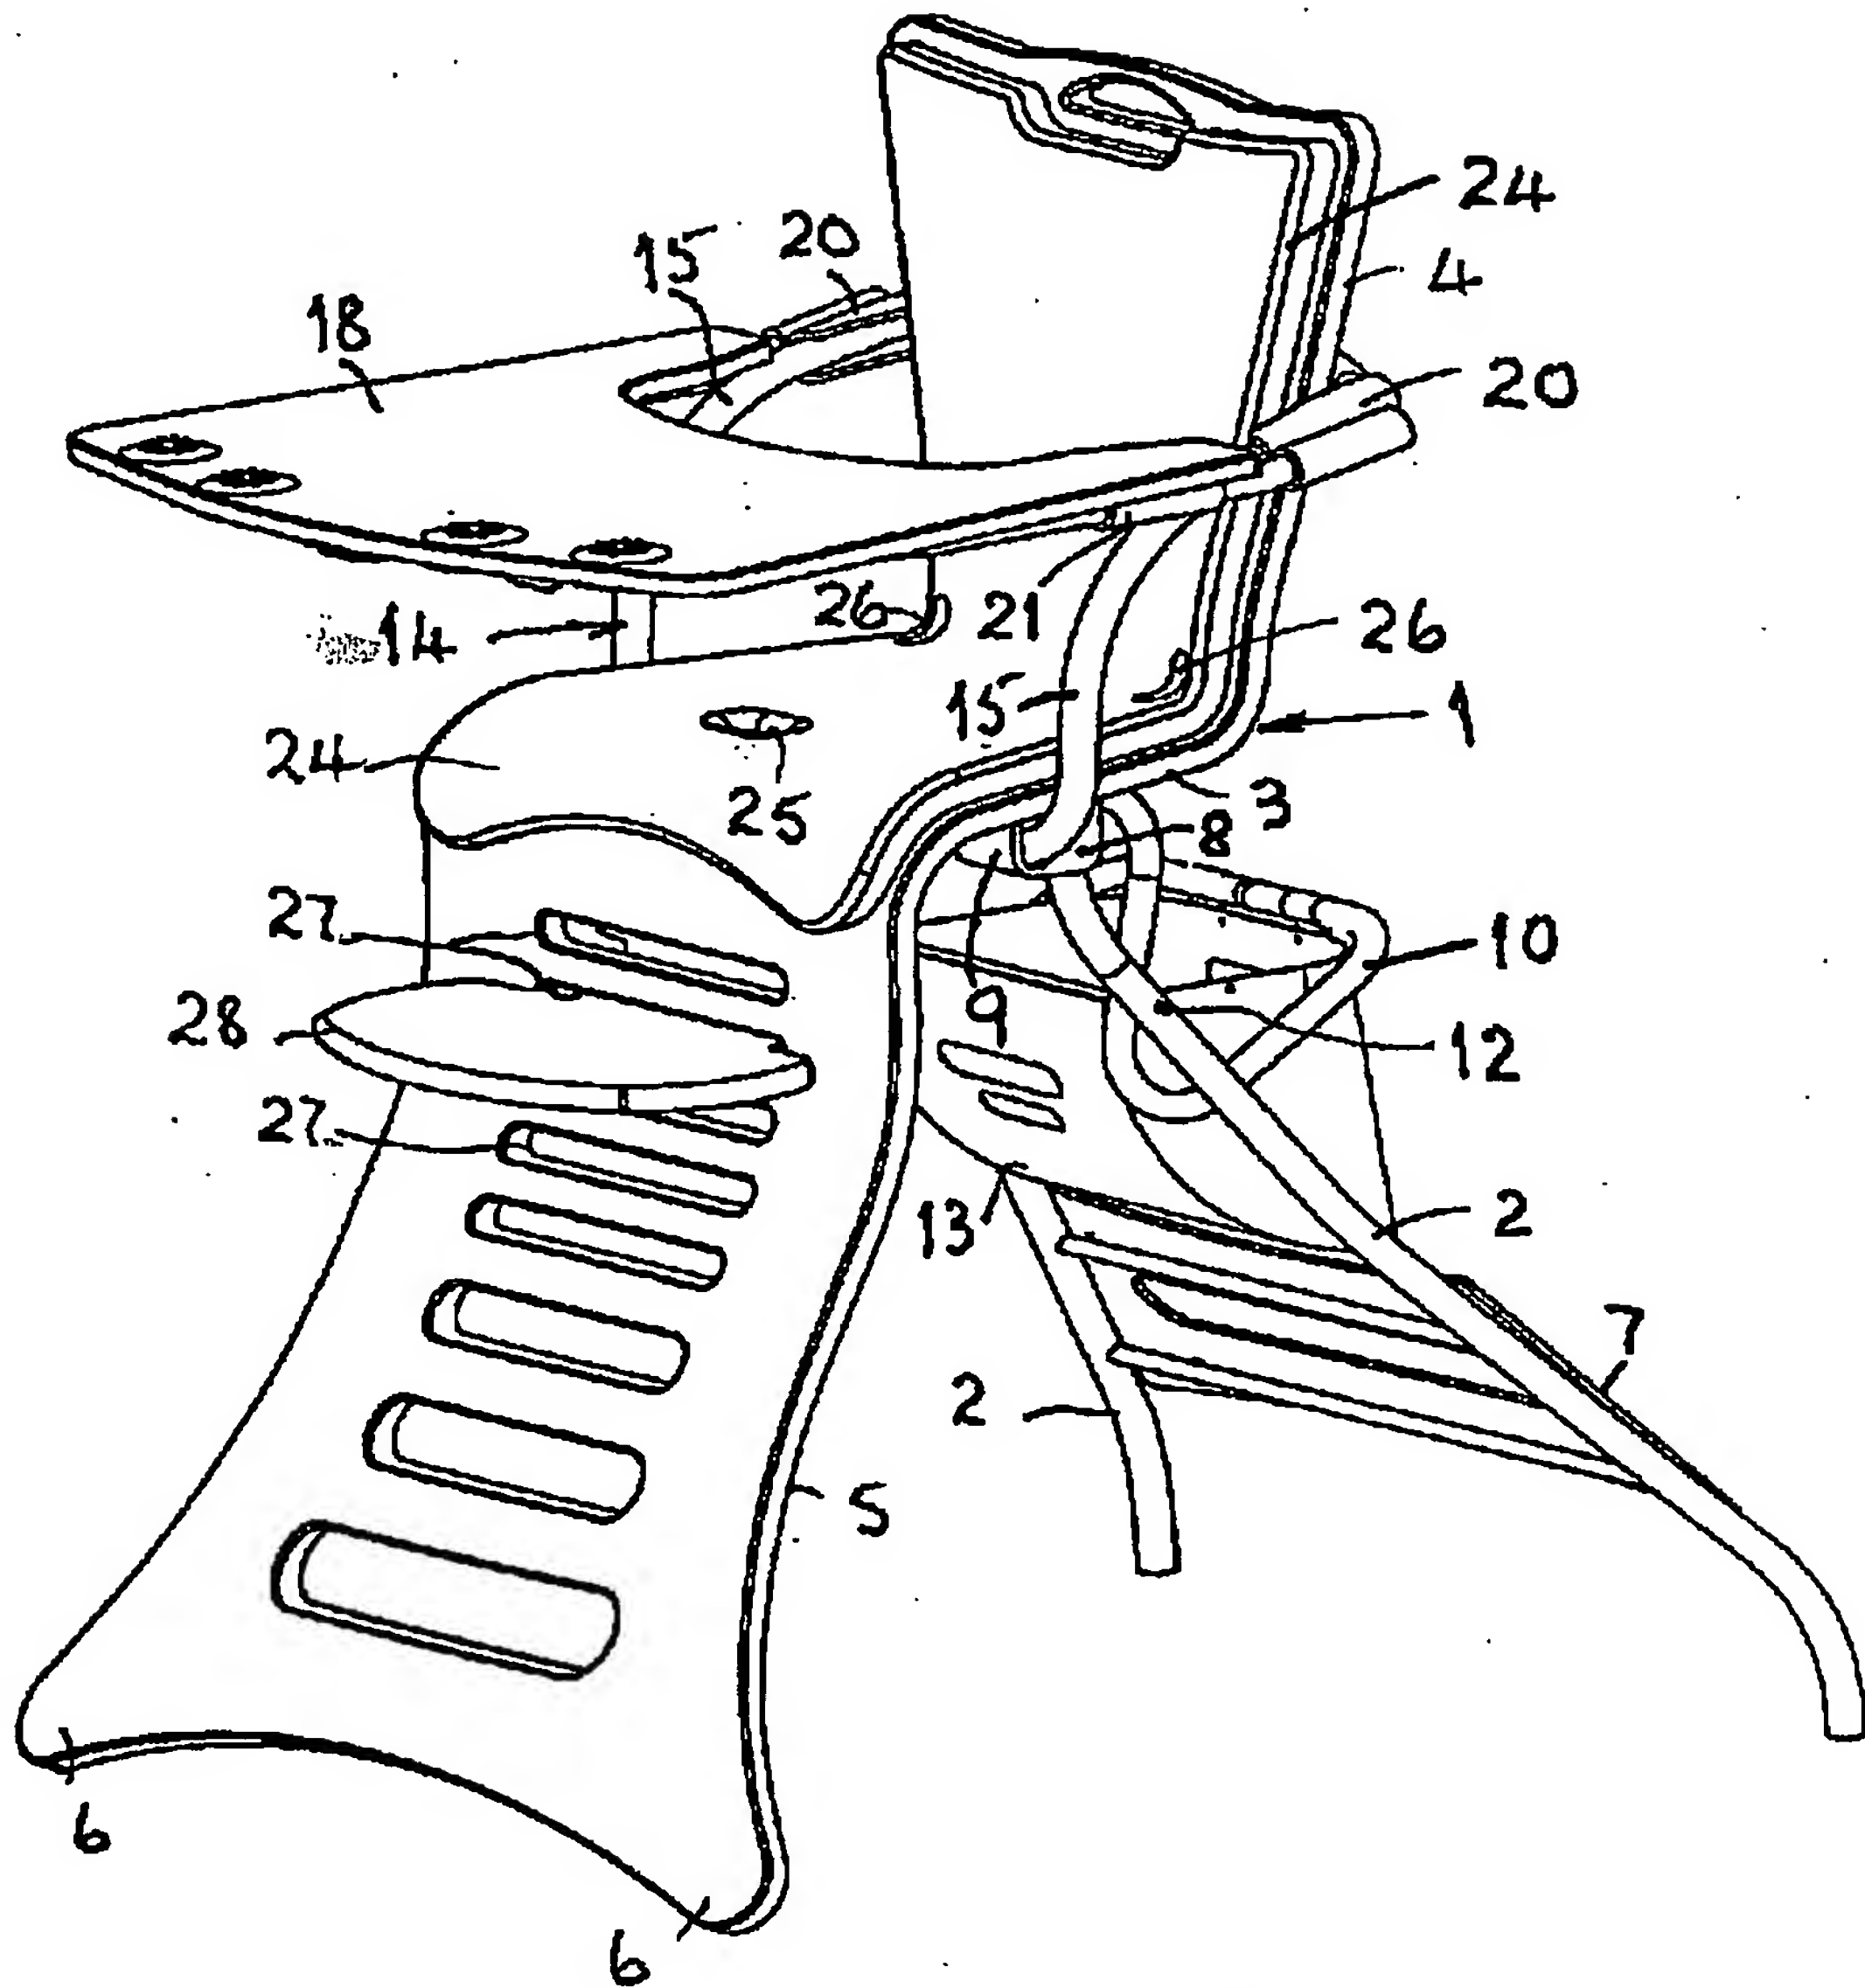

Fig. 3
35 Figures 3 and 4 are perspective views of the high-chair of the invention from above and below respectively.
- an elbow that is open on its inside (see Figure 3) so that it 'cups' onto the tube 14 around the bend, and a manually-releasable catch (not shown) then becomes operative to hold it there. The frame 19, and with it the tray 18, is accordingly in this way firmly secured to the chair, but can be freed when desired, by releasing the catch and pushing the frame 19 slightly rearwards to disengage the mounts 20 from the tube 14.
- 30 Cushioning of the chair-seat and back-rest portions 3 and 4 for comfort of the occupant is provided by a cover 24 which also extends down from the front of the portion 3 into the portion 5 to lie under the knees of an infant occupant. The cover 24 has appropriate apertures 25 and 26 (Figure 3) where attachment of harness (not shown) to the seat portion 3 is to be made for child restraint and safety.